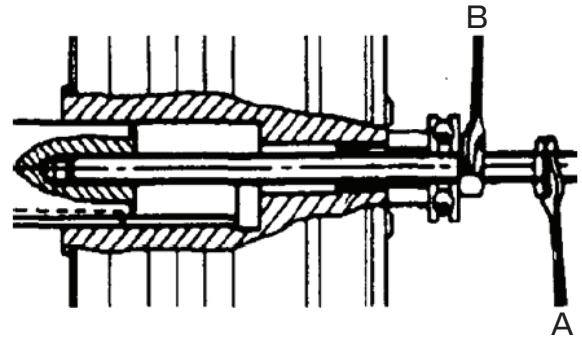

Figure 2 - Installation
Using the threaded bar as shown on Figure 2, and using two wrenches (hold wrench "A" and turn wrench "B" to draw the coupling on to the motor shaft). For a good mounting, make sure shafts are clean and without burrs, and lubricate the mating surfaces with oil or antiseizing grease. Note: In case of hot mounting (not recommended), do not reach a temperature above 195 °F, or higher, which causes irreparable damages to oil seals.
2. Fit fluid coupling on motor shaft by using a threaded bar as shown on Figure 2 and using two wrenches (hold wrench "A" and turn wrench "B" to draw the coupling on the motor shaft).